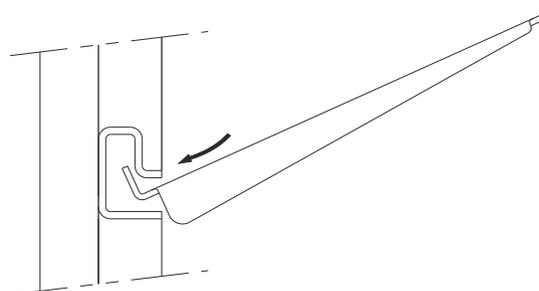

Fig.2
2. Tilt & engage the brackets into the tracks as shown in Fig. 2.